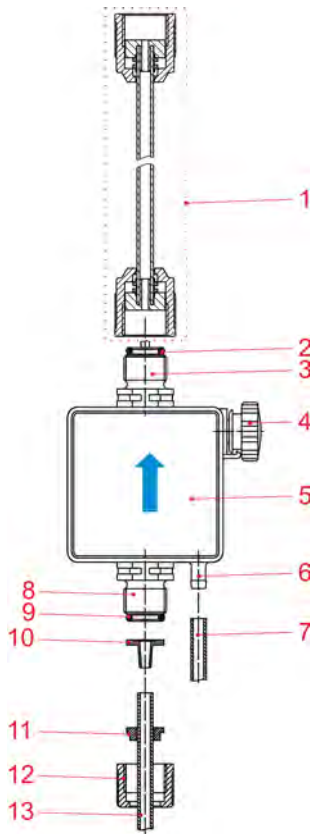

Fig. 8: Hydraulic installation
When connecting the suction and pressure line, ensure that the required seal is achieved by mounting O-rings on the connections (Fig. 8 , item 2 and item 9).
1. ➤ Fit the O-ring (Fig. 8 , item 2) in the valve groove.
4. ➤ Mount the prefabricated metering line (Fig. 8 , item 1).
5. ➤ Lay the O-ring (Fig. 8 , item 2) in the valve groove and tighten the union nut.
2. ➤ Push the union nut (Fig. 8 , item 12) and clamping piece (Fig. 8 , item 11) over the hose.
3. ➤ Insert the union nut and clamping part up to the stop collar on the tapered part (Fig. 8 , item 10).
4. ➤ Fit the O-ring (Fig. 8 , item 9) in the valve groove.